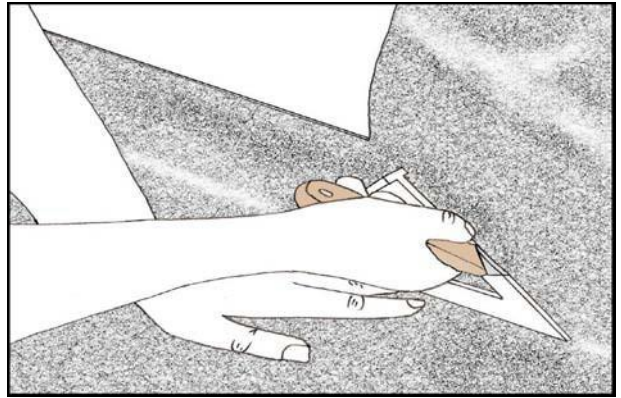

Fig 12.
2. Using an angle template, cut the Comcork at 45 degrees from the point of the corner. (See Fig 12.)